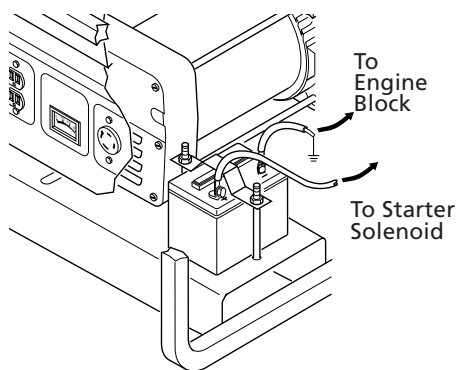

Figure 17 – Connecting Positive and Negative Cables to Battery (Model 3WY45 Shown)
2. Locate the red, positive (+) battery cable from starter solenoid. Connect it to the positive (+) battery terminal (See Figures 17 and 18).